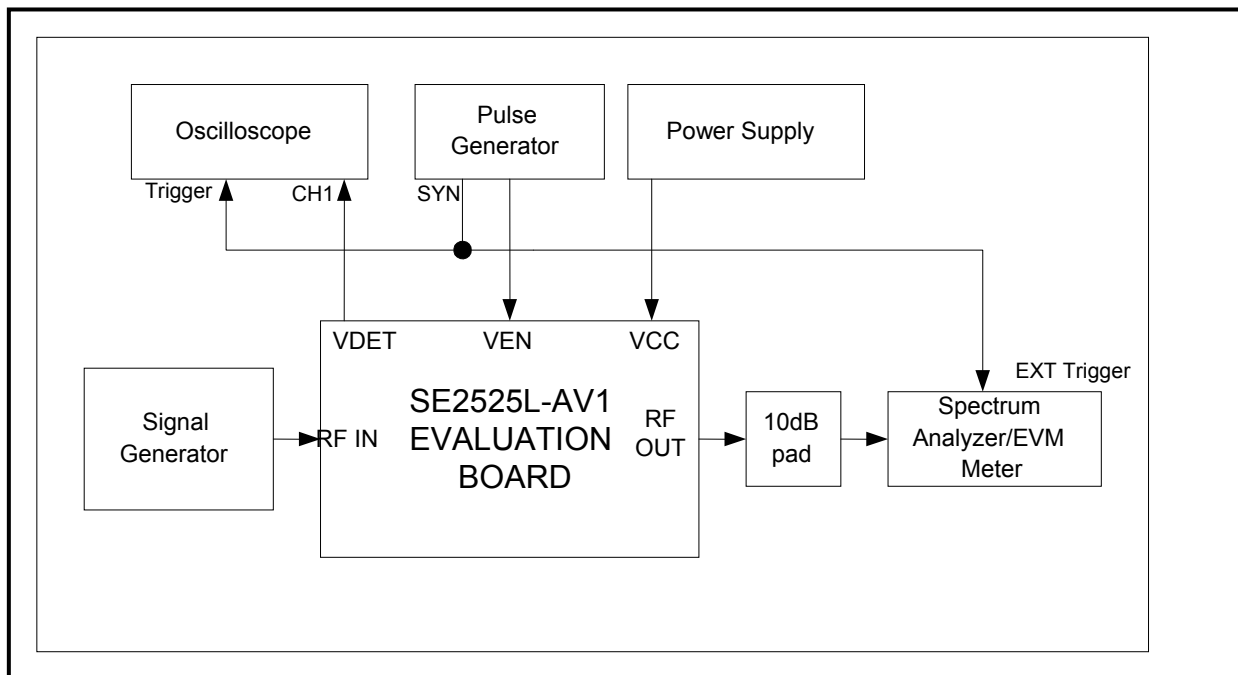

Figure 5: Test Equipment Setup for Dynamic Measurement
For dynamic measurement test setup – reference Figure 5.
16. Connect V_{EN} to Pulse Generator with square wave 0- V_{CC} pk-pk. See Figure 5